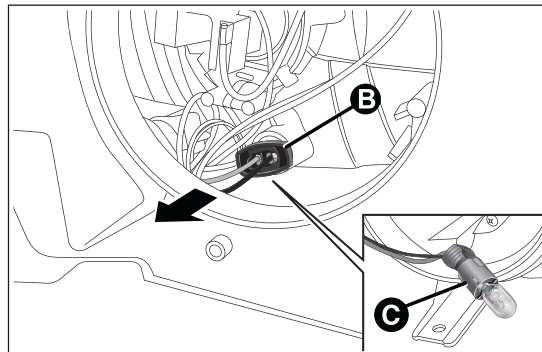

fig. 130
- remove snap-fitted bulb holder B fig. 130, remove the bulb C and replace it;